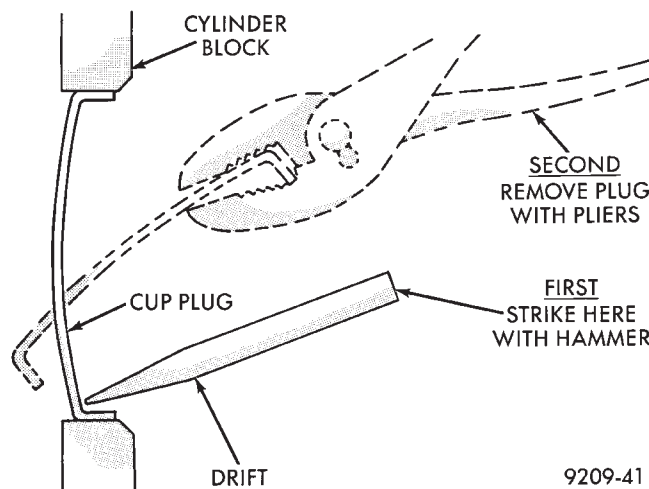

Fig. 22 Core Hole Plug Removal
(1) Using a blunt tool such as a drift or a screwdriver and a hammer, strike the bottom edge of the cup plug (Fig. 22).
(2) With the cup plug rotated, grasp firmly with pliers or other suitable tool and remove plug (Fig. 22).